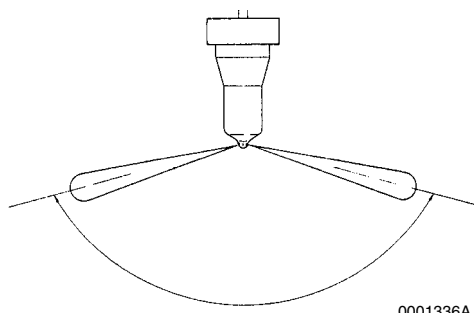
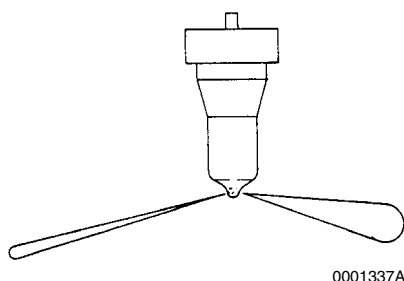

Figure 7-49
Figure 7-50
6. Pump the operating lever more rapidly to repeatedly “pop” the injector and observe the spray pattern. The pattern should be a very fine uniform spray (**Figure 7-49**). If a dripping or an uneven pattern is seen (**Figure 7-50**), service or replace the injector.